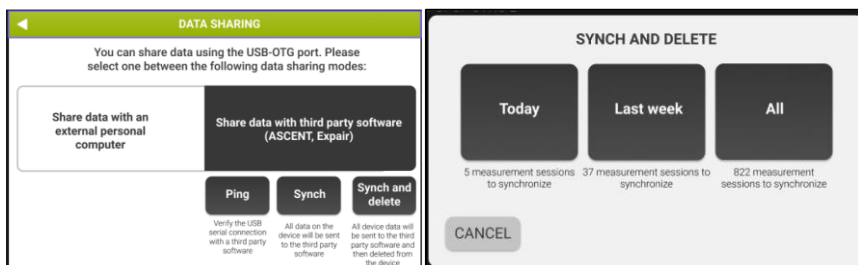

Figure 16 - Synchronization selection
- Select *Sync and delete* to synchronize and delete data from the internal database. The Synchronization can be performed on measurements of the current day, last week or all data. Once data synchronization is ended the data on the device will be deleted (Figure 16).